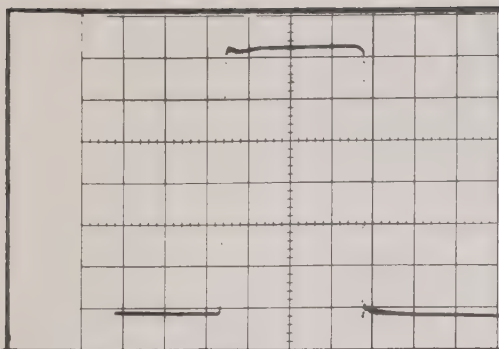

Figure 2-6A. P906 Output with Attenuator Control
2.3.3.1 Amplitude Control: The P906 output is coupled to the BNC connector by a constant impedance, wideband attenuator. The attenuator provides 10 db attenuation in 1 db steps. If further attenuation is required, external attenuators, such as General Radio Coaxial 10 db Attenuator, No. 174-620, can be used. By cascading these attenuators, clean pulses down to 5 mv can be obtained from the P906. Figures 2-6A and 2-6B show the P906 output attenuated by the internal attenuator and by four external attenuators.